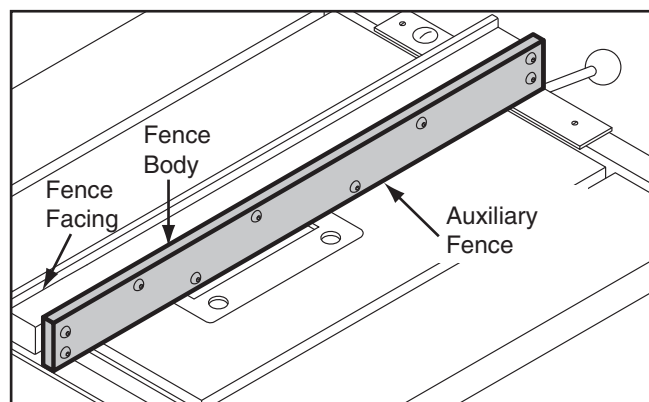

Figure 68. Auxiliary fence.
4. Use the mounting hardware that had previously attached the fence face to attach the auxiliary fence. The end result should be similar to **Figure 68**.